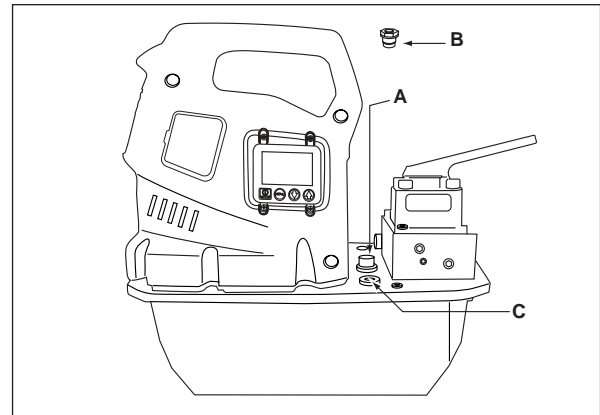
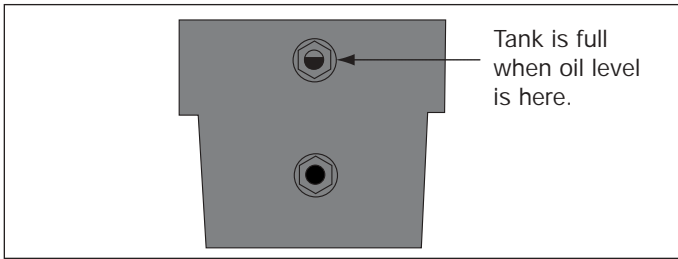

Figure 2, Breather Installation
Figure 4
4.1 Reservoir Breather Cap (See Figure 2)
Check the oil level of the pump prior to start-up, if necessary add oil by removing the SAE #10 plug from the cover plate (see Fig. 2). The reservoir is full when the oil level reaches the top of the sight glass. (Fig. 4).